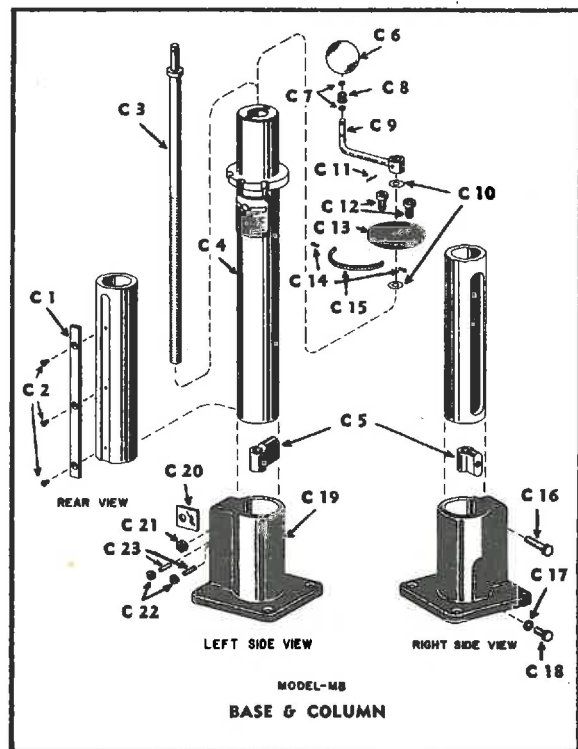

Figure 8
6. ADJUSTING BASE TO COLUMN (Figures 8 and 9, Pages 10 and 11)